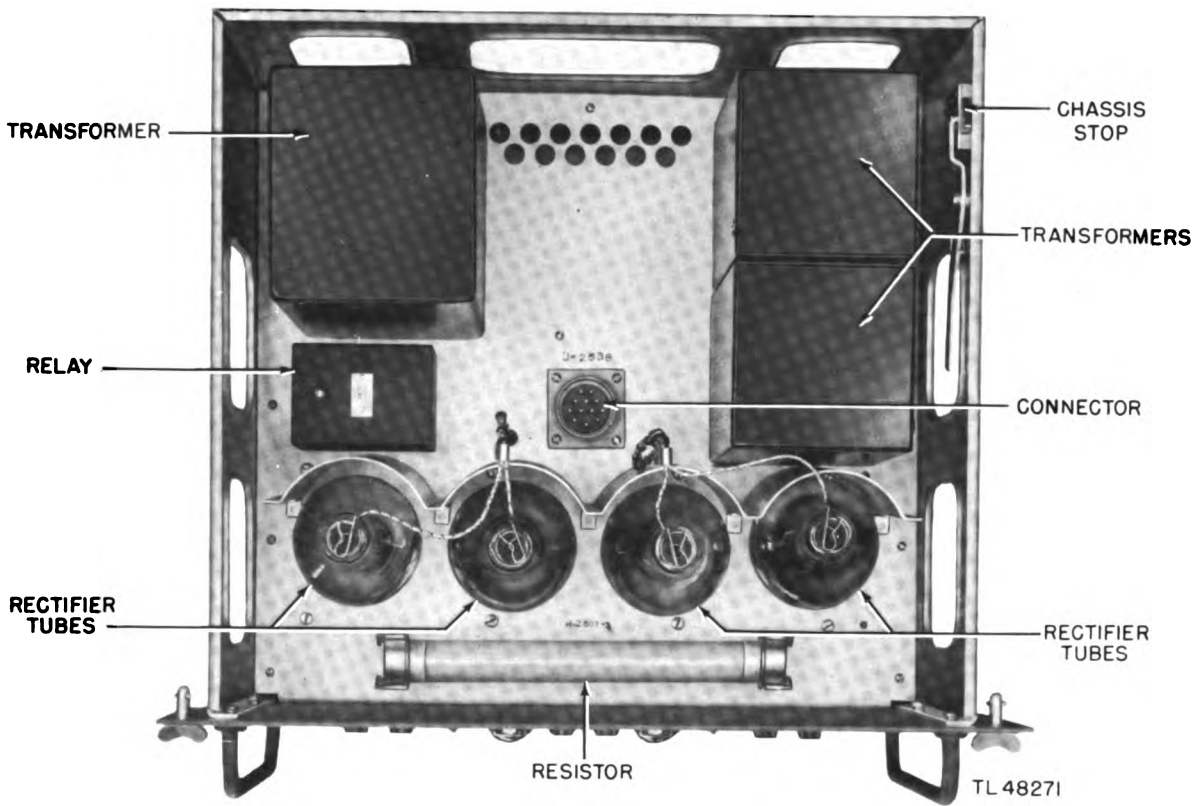

Figure 4-11. Feed motor supply, top view.
b. Maintenance Procedure (figs. 4-11 and 4-12).